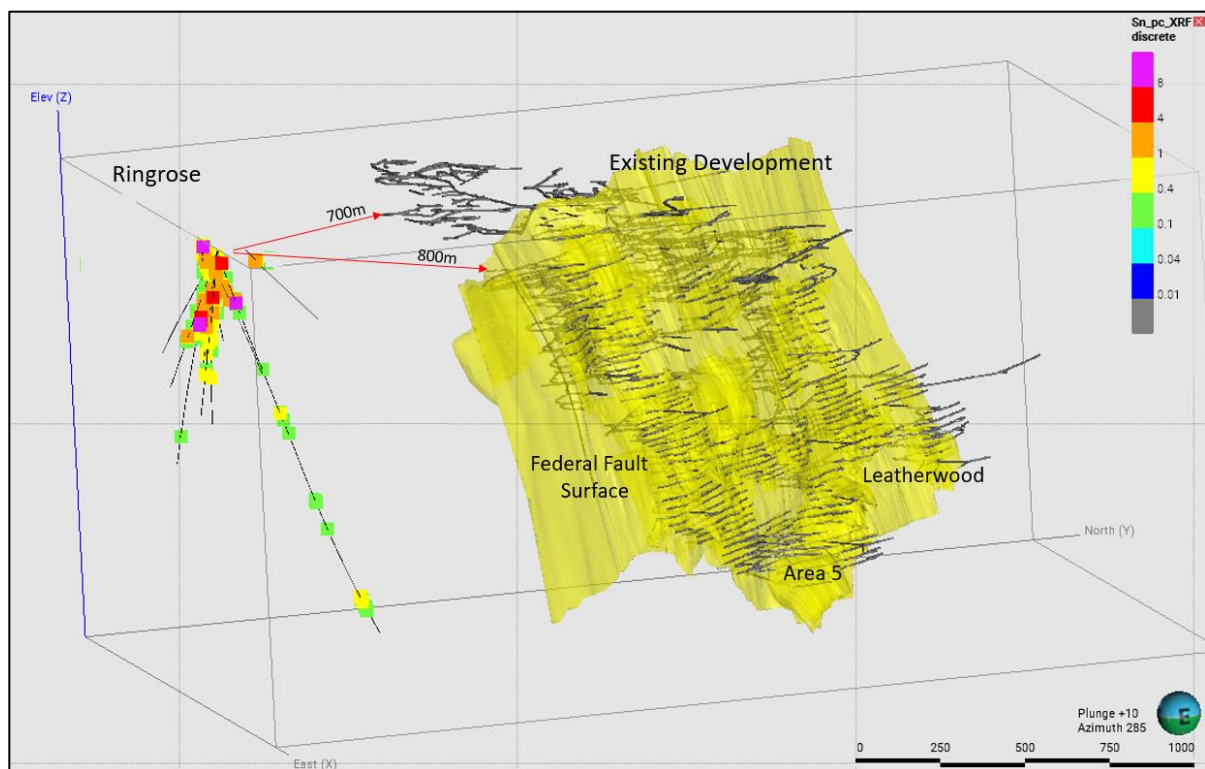

Figure 1: Oblique view looking north-west showing Sn % grades on recent drill holes relative to the location of existing underground development.
Following this high-grade intersection, fourteen additional follow-up drill holes for 7,424m have been completed at Ringrose to date. Four of these completed drill holes were surveyed with downhole electromagnetic (EM) in November 2023, identifying several new conductive zones. Assay results from eleven of these holes, and results from the EM survey were previously reported in Metals X releases (Metals X ASX releases on 5 July 2023, 27 February 2024 and 24 April 2024). Location of drill hole intersections to date are shown in oblique view on Figure 1, and in section on Figure 2. A plan view of the drill hole collar locations for the Ringrose infill and extension drill programs currently being drilled is shown in Figure 3.